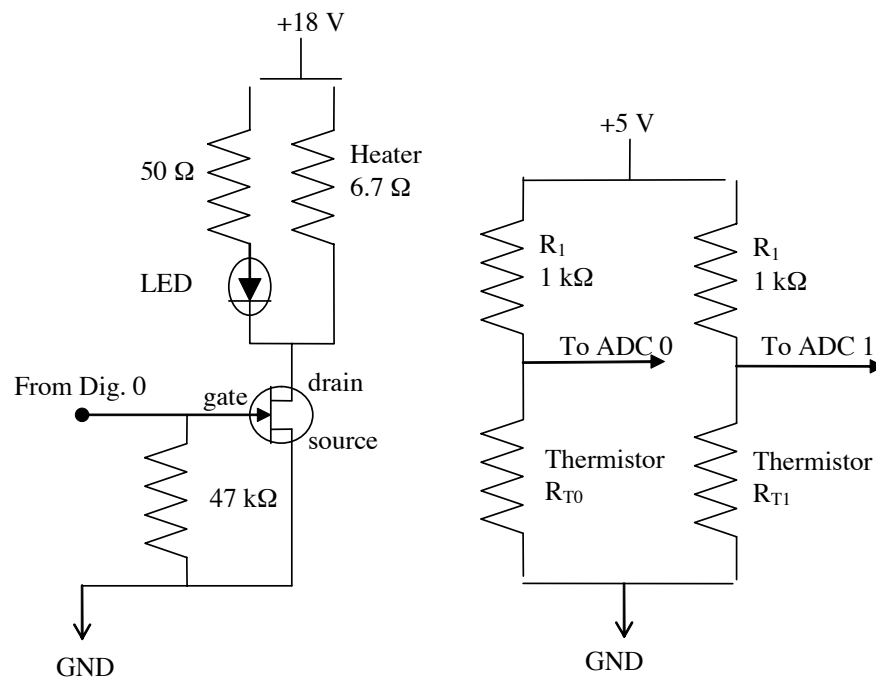

Figure 10.1: The heater and temperature control circuits for the thermal diffusion experiments.
The proto-board contains two circuits, very similar to the ones you have constructed previously for your temperature controller. On the left side of Fig. 10.1 is the heater part of the circuit. Notice that now we use an 18 volt power supply. We want to dissipate a lot of energy in the heater in a short time period, so you should use a power supply that can deliver up to four or five amps.
On the right side of Fig. 10.1 is the thermometer part of the circuit. The only difference between this and your previous circuit is that now we will be reading the voltage across two thermistors at different locations on the copper rod.
1. Assemble the circuit on your proto-board, as shown in Fig. 10.1. Make a sketch of the circuit in your lab notebook, clearly labelling the circuit elements.